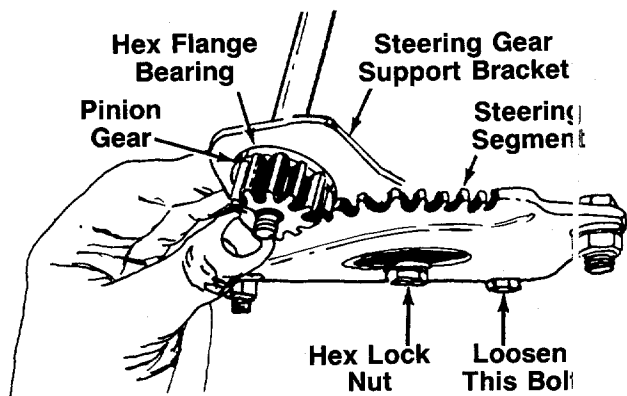

FIGURE 6.
6. **Style A**—Insert the **steering shaft** with assembled parts through the **steering housing cover**. The lower end of the shaft should extend through the hole in the front end of the **steering gear support bracket** (Ref. No. 12 on page 30). See figure 6.
8. Place **hex flange bearing**, flat side down, over the end of the **steering shaft**, and seat it into the **steering gear support bracket**. See figure 6.
12. Make certain the hex lock nut which secures the steering segment to the steering gear support bracket (shown in figure 6) is tightened so there is no play between the two parts. Do not over-tighten as the steering segment must be free to turn.